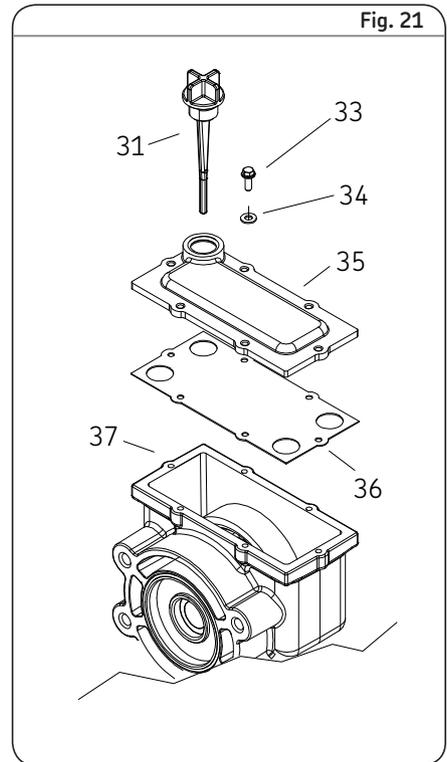

Fig. 21
- 48 Insert and thread screws (44) with lock washers (45) into shaft cover (46) and pump housing (37).
- 49 Install new cover gasket (36) on pump housing (37). Refer to **fig. 21**.
- 50 Install the pump cover (35).
- 51 Install the screws (33) with o-rings (34) into the pump cover (35).